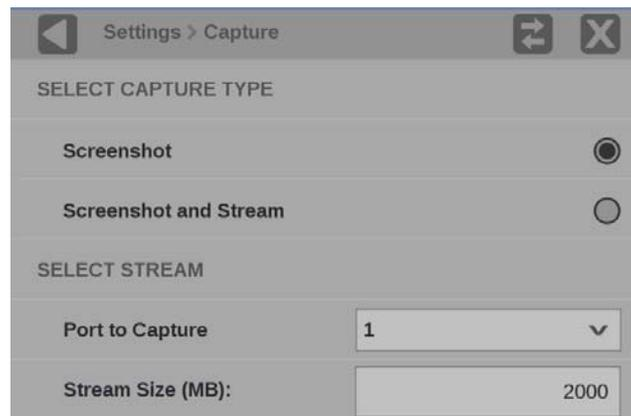

Figure 76: Selecting Screenshot
2. Select **Screenshot** under Capture Type. (See Figure 76.)